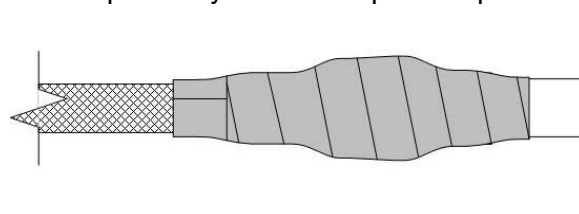

Figure 5
- 3.4.5** Continue to wrap the Self-Fusing Silicone Tape until at least one complete wrap past the end of the StretchSeal Tape. Make one complete wrap over the top of the last wrap. The first and last wrap must always be a complete wrap directly over the top of the previous wrap. (see figure 5)